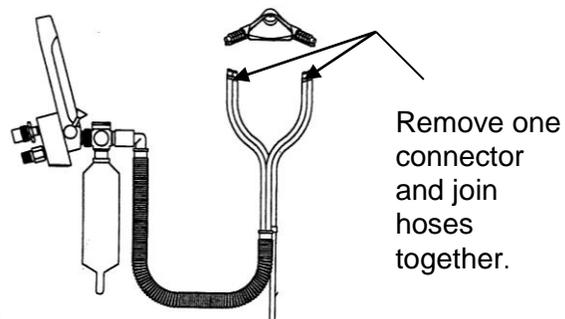

FIGURE 1
Disassemble the fresh gas tubing from the mask and "Y" connector, and breathe back into the fresh gas corrugated tubing (Figure 1, Item 9) connected to the flowmeter. You should not be able to fill the reservoir bag with exhaled gas. If the bag fills, this breathing circuit has no NRV and would allow for carbon dioxide (CO2) buildup in the breathing bag.
3. **Rubber Goods to Bag Tee:** (Refer to item (#) in parts list on the next page and Figures 1 and 2 on pages 4 and 5 for assembly and hook-up options.)
- Attach Vacuum Hoses (#8): Refer to Figure 1 page 4.